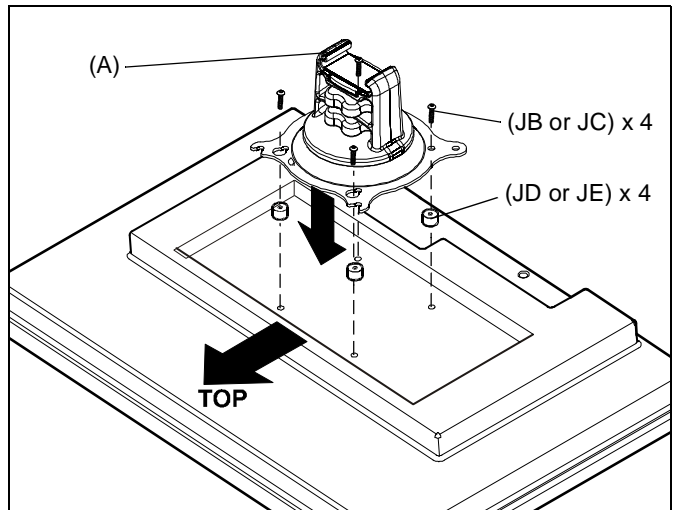

Figure 12
- Pick up and orient the Centris assembly (A) so that the mounting holes are aligned with the holes in the spacers; rotate the Centris bracket as required. (See Figure 12)
- Using Phillips screwdriver, install four selected screws (JB or JC) through the mounting holes in Centris bracket, spacers (JD or JE), into the display. (See Figure 12) Tighten all four screws. Do not overtighten!